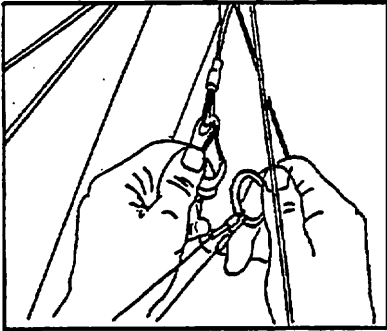

Figure 14
6) Attach the bridle ring to the bridle snap clip, making sure that the bridle cables are not twisted, and that the bridles are inside the top rear wire. (Figure 14, 15, 16)